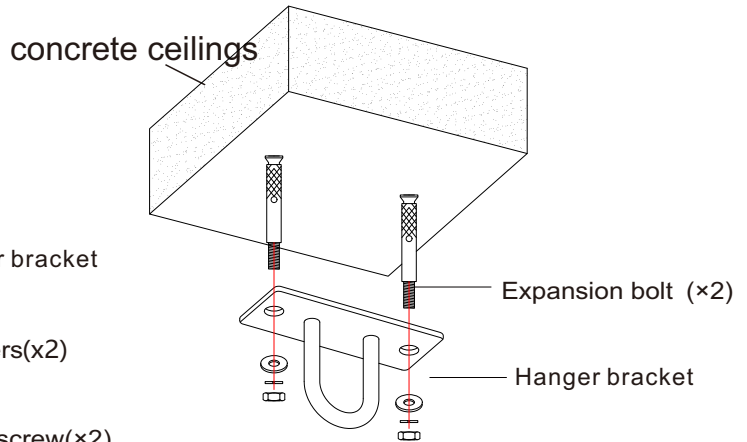

Figure 8b
b. For concrete ceilings, secure the Hanger bracket with expansion bolts. (Fig. 8b)